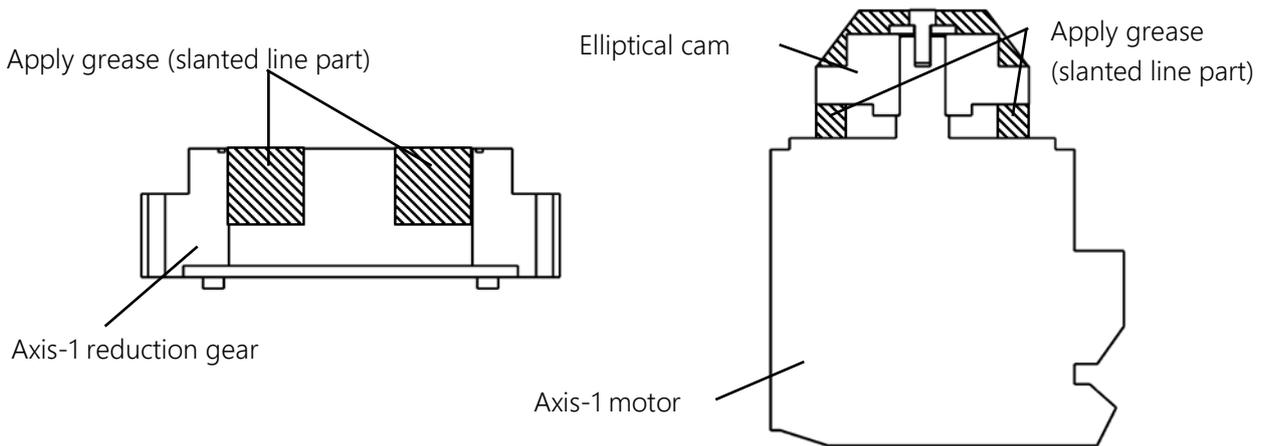

Fig. 7.48 Applying Grease to Axis-1 Reduction Gear
- 4) Apply the amount of grease listed in Table 7.12 to the inside of the axis-1 reduction gear body as shown in Fig. 7.48. Similarly, apply grease to the axis-1 motor side as well.